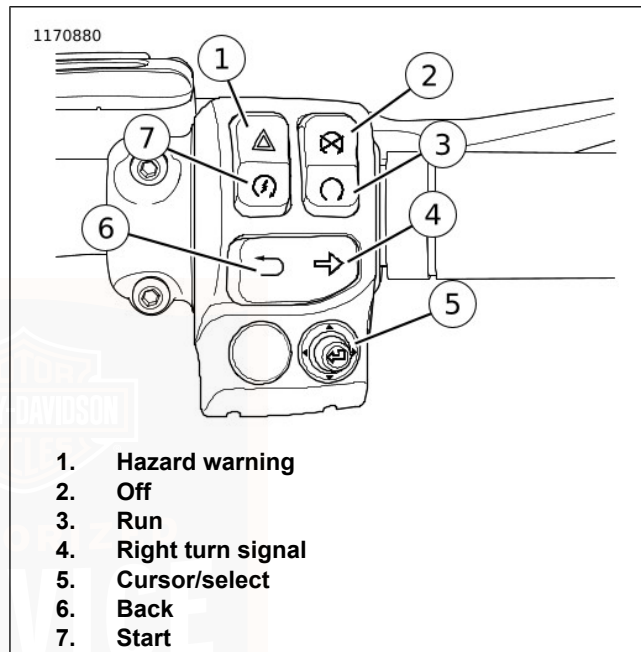

Figure 45. Right Hand Switch Module (Typical)
2. See Figure 45. With security fob present, set the OFF/RUN switch to RUN.